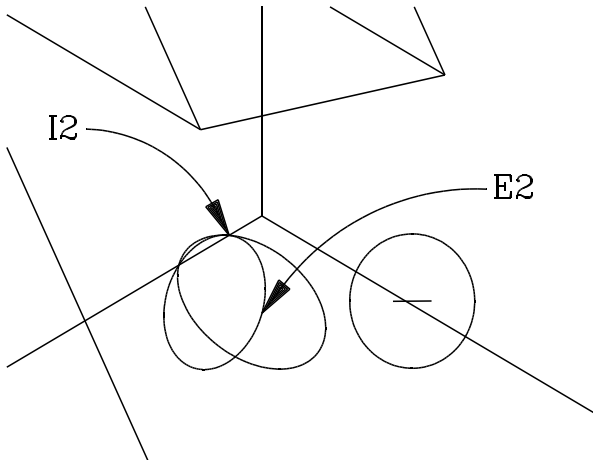

Figure 14
44. Click on E2 (the right side of the ellipse), then click on I2 (the other side of the intersection of the ellipse and the line). (See Figure 14.)